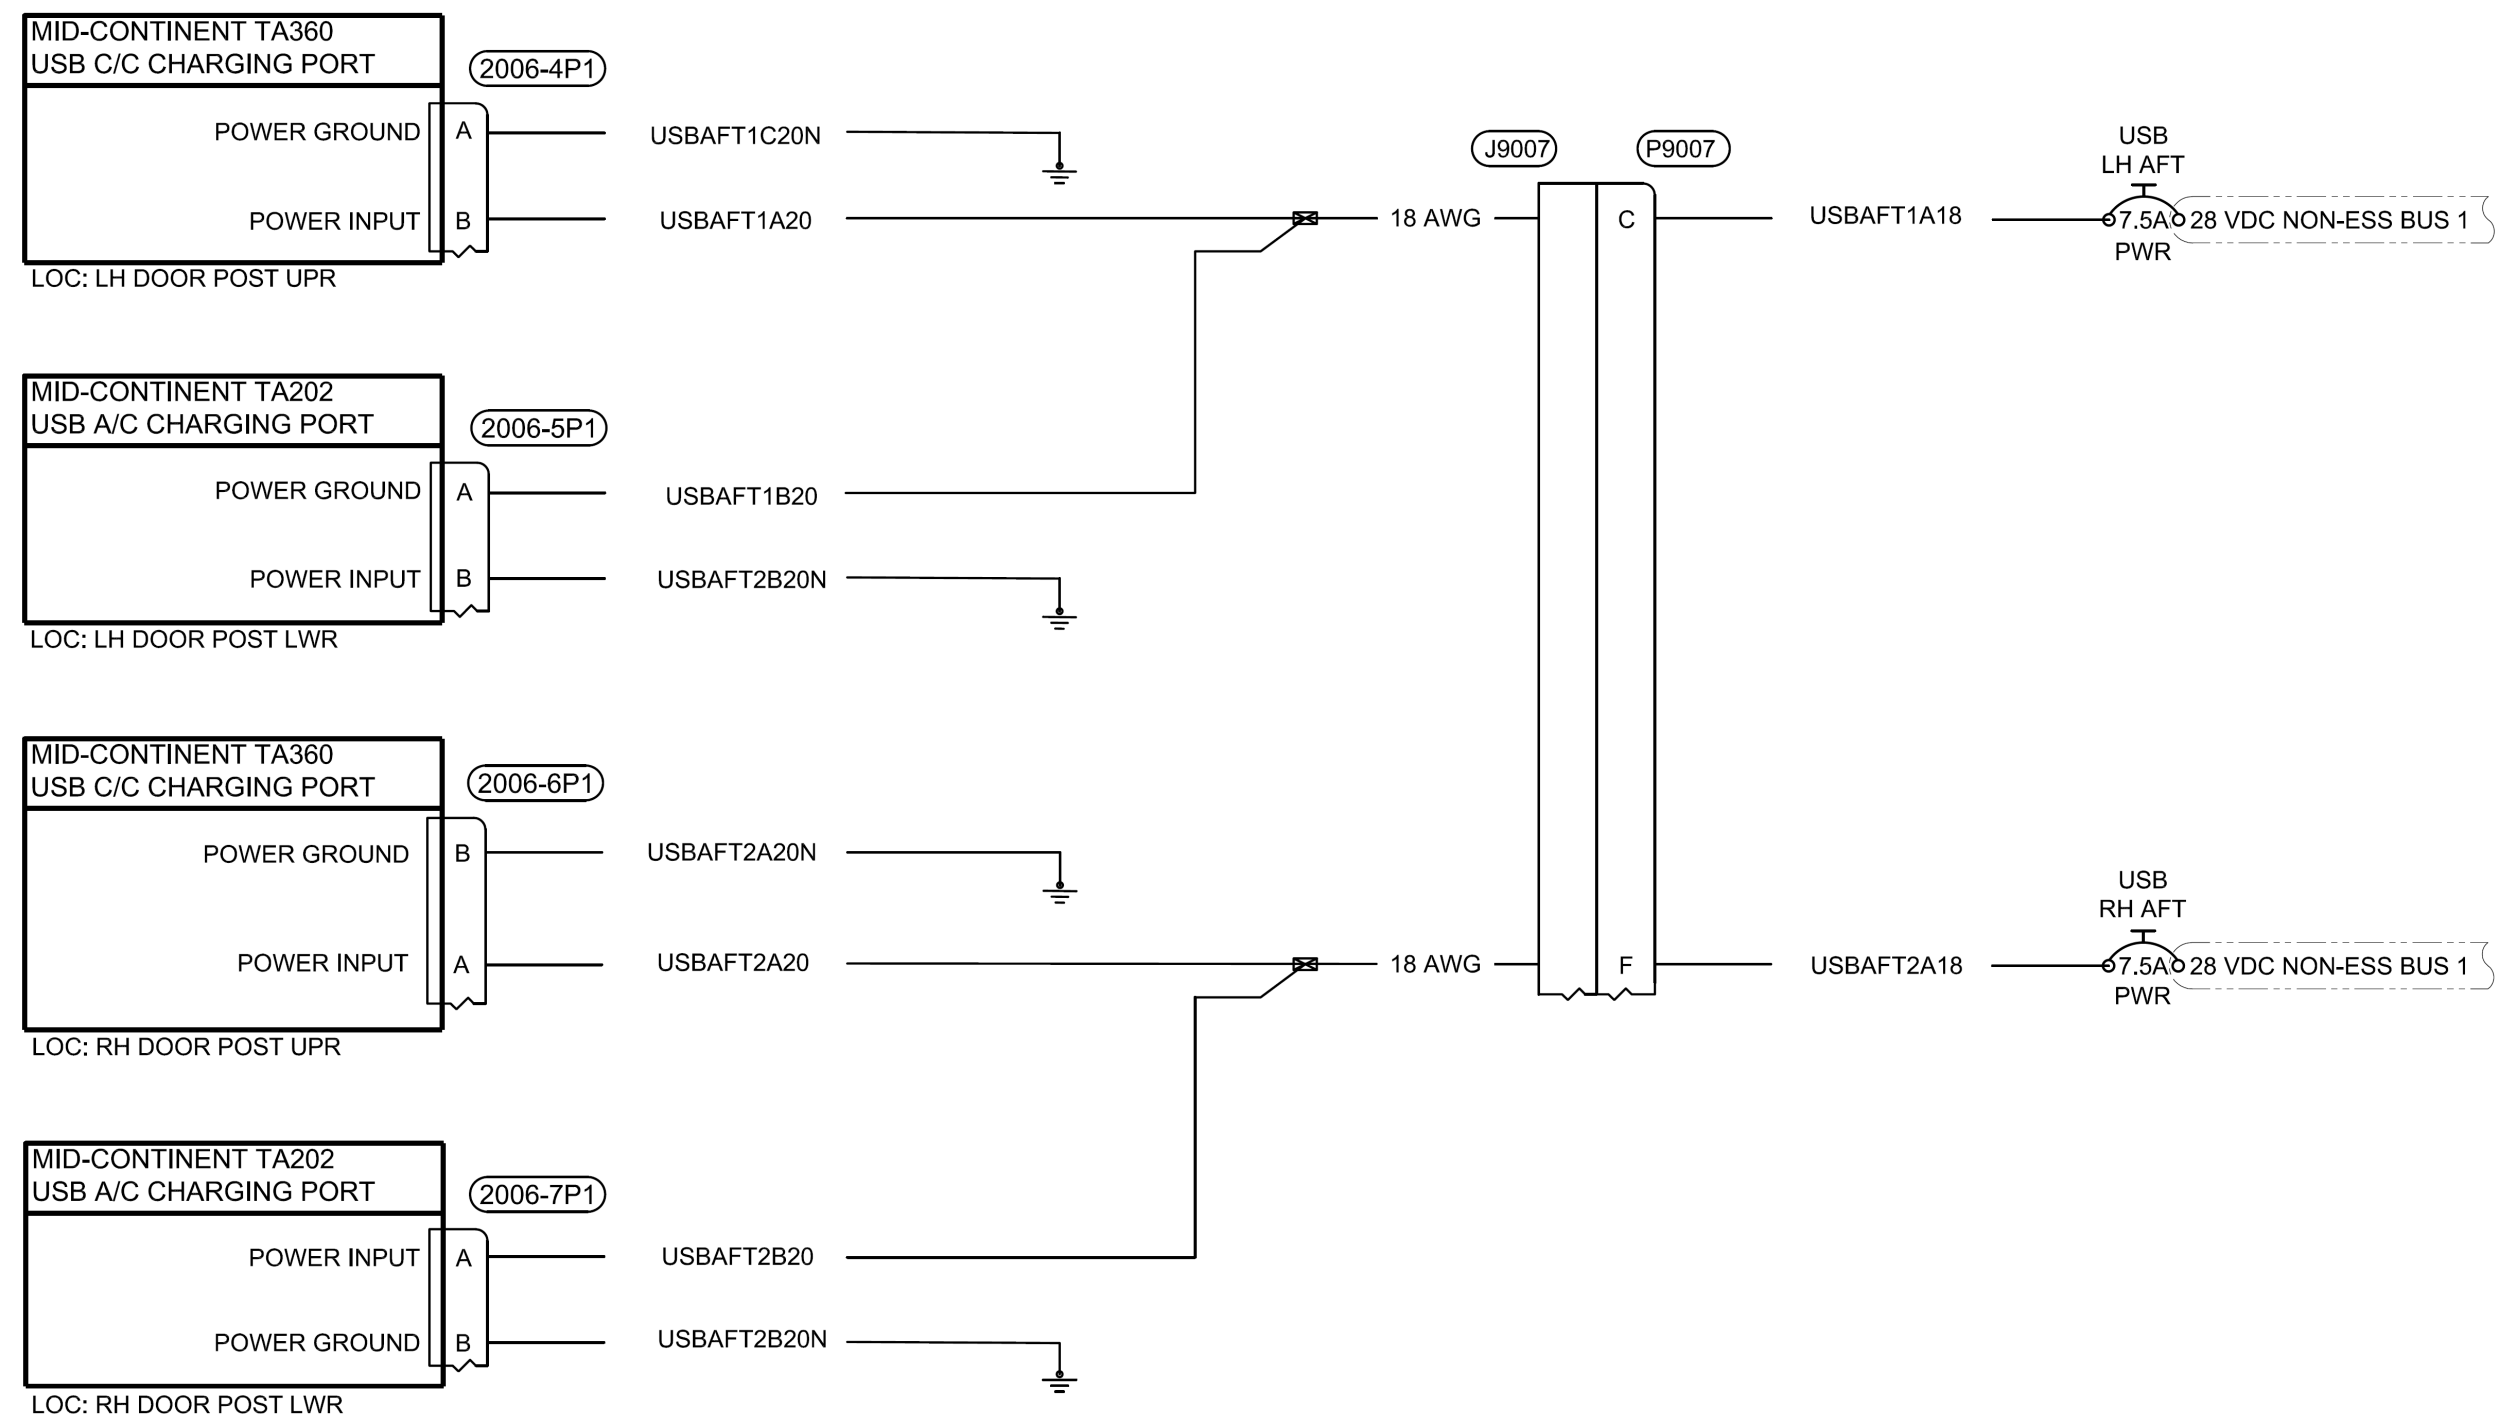

Figure 10 - AFT USB Wiring Installation
4. Install USB wiring in accordance with Figure 10, as applicable.
5. Install USB wiring in accordance with Figure 10, as applicable.
- c. Ensure that all cables are properly secured, and shields are connected IAW Figure 10.